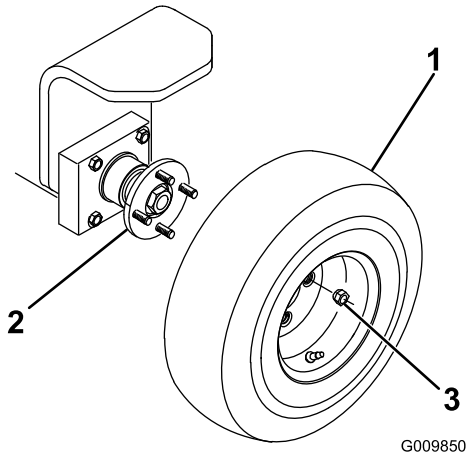

Figure 2
1. Mount the wheel assembly onto the rear wheel hub (Figure 2).
2. Install the lug nuts (Figure 2) and tighten them to 45 to 65 ft-lb (3 to 5 N-m).